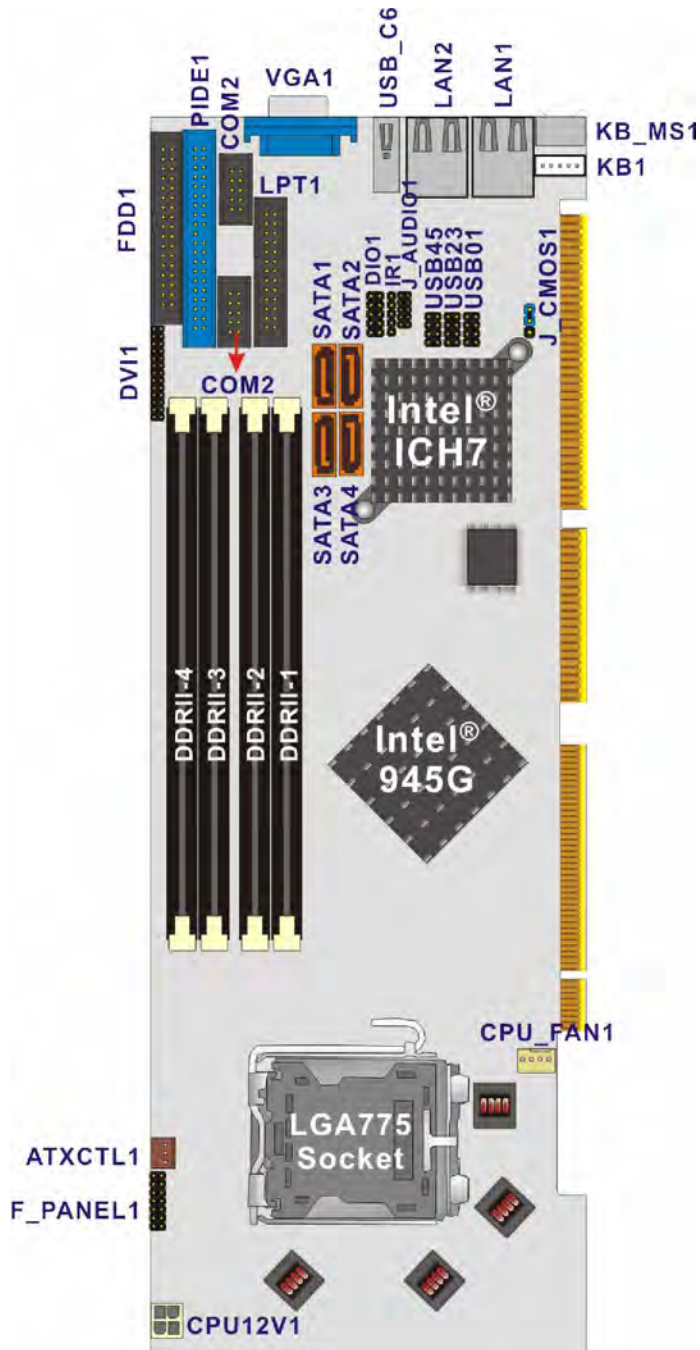

Figure 3-1: Connector and Jumper Locations
**Figure 3-1** shows the on-board peripheral connectors, backplane peripheral connectors and on-board jumpers.